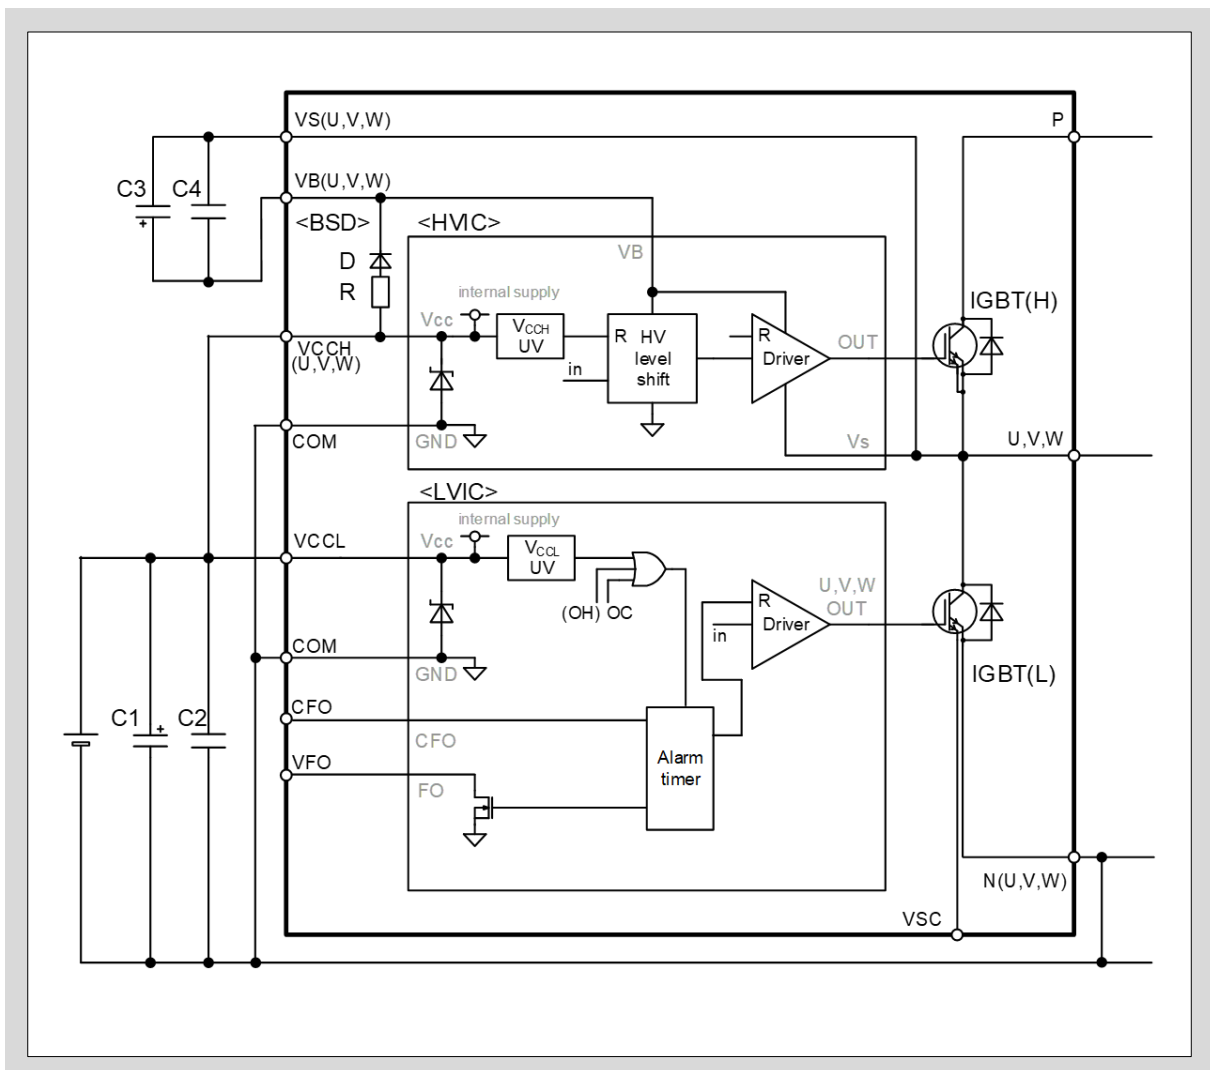

Fig. 3-1 UV protection circuit of high-side and low-side control power supply
- Fig.3-1 shows the UV protection circuit of $V_{CCH(U,V,W)}$ and V_{CCL} .
- As shown in Fig.3-1, a diode is connected between $V_{CCH(U,V,W)}$ -COM and V_{CCL} -COM terminals. The diode is connected to protect the product from the input surge voltage. Do not use the diode for voltage clamp purpose otherwise the product might be damaged.